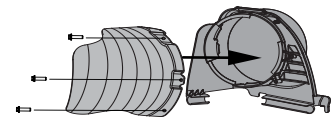

Figure 15
1. Attach the upper chute support to the chute deflector using the three screws supplied in the hardware pack 689-02299. See Figure 15.